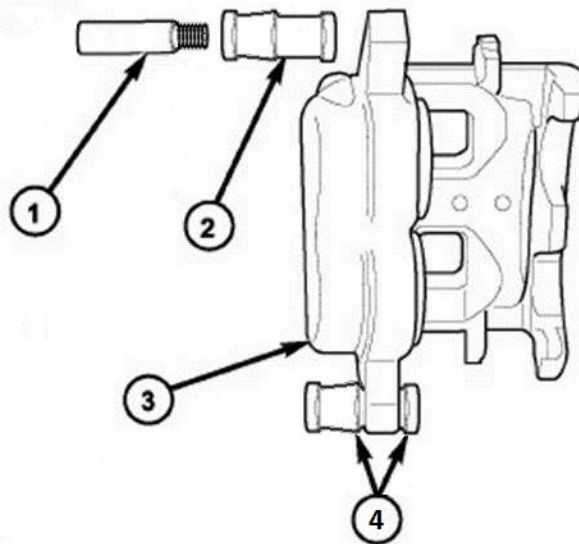

Fig. 3 Brake Caliper Guide Pins And Bushings
7. Push the brake caliper guide pins (1) out of the bushings (2) and discard the guide pins (Fig. 3).
8. Remove the bushings (2) from the brake caliper (3) and discard the bushings (Fig. 3).
9. Install the NEW bushings (2) to the brake caliper (3). The bushing is fully inserted when the bushing retention lips (4) are visible and properly seated on both sides of the caliper guide pin hole (Fig. 3).
10. Install the NEW guide pins (1) into the bushings (Fig. 3).